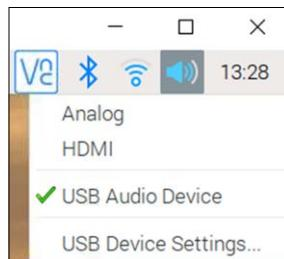

Figure 20.5: Select USB Audio Device.
- Select USB Audio Device (Figure 20.5).